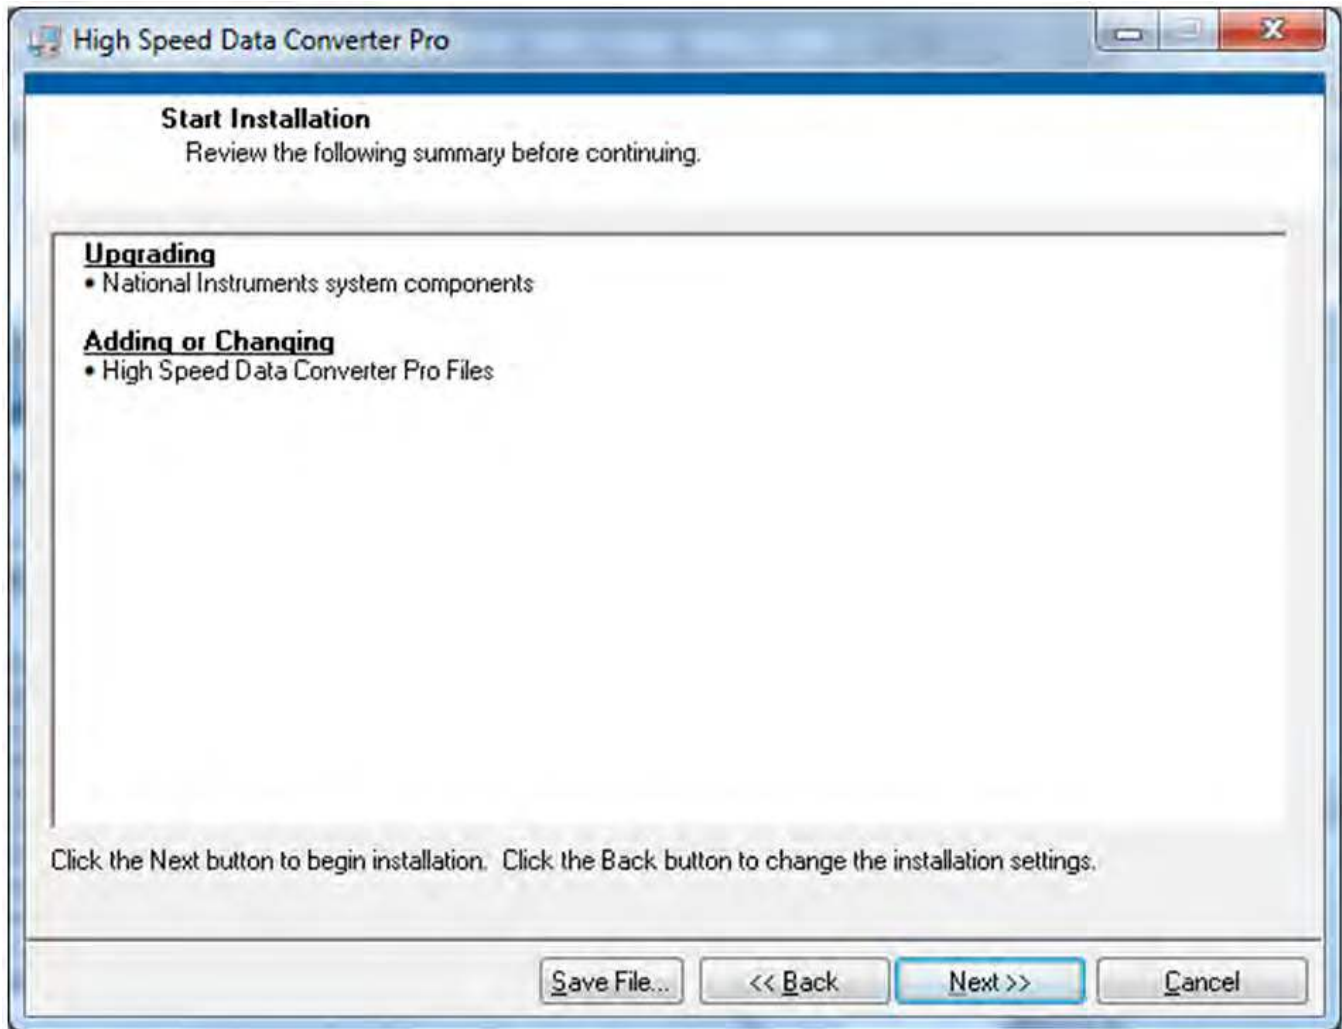

Figure 31. HSDCPro Install (Start Installation)
- Press the *Next* button as shown in Figure 31.